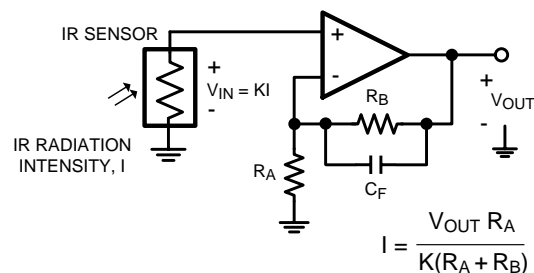

Figure 59. IR Radiation Sensor
The low input bias current and low input referred noise of the LMV796 and LMV797 make them ideal for sensor interfaces. These circuits are required to sense voltages of the order of a few μV and currents amounting to less than a nA hence, the op amp needs to have low voltage noise and low input bias current. Typical applications include infra-red (IR) thermometry, thermocouple amplifiers and pH electrode buffers. Figure 59 is an example of a typical circuit used for measuring IR radiation intensity, often used for estimating the temperature of an object from a distance. The IR sensor generates a voltage proportional to I , which is the intensity of the IR radiation falling on it. As shown in Figure 59, K is the constant of proportionality relating the voltage across the IR sensor (V_{IN}) to the radiation intensity, I . The resistances R_A and R_B are selected to provide a high gain to amplify this voltage, while C_F is added to filter out the high frequency noise.